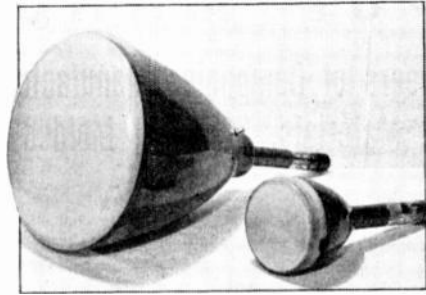

FIG. 8. OLD AND NEW TUBE DESIGNS
**Smaller Television Tubes:** Fig. 8 shows the 12-in. prewar cathode-ray tube and the 5-in. developmental type designed by RCA for their projection television receivers. The smaller tube operates at 27,000 volts, nearly 4 times the voltage used on the 12-inch tube, and produces a much brighter spot on the fluorescent green.